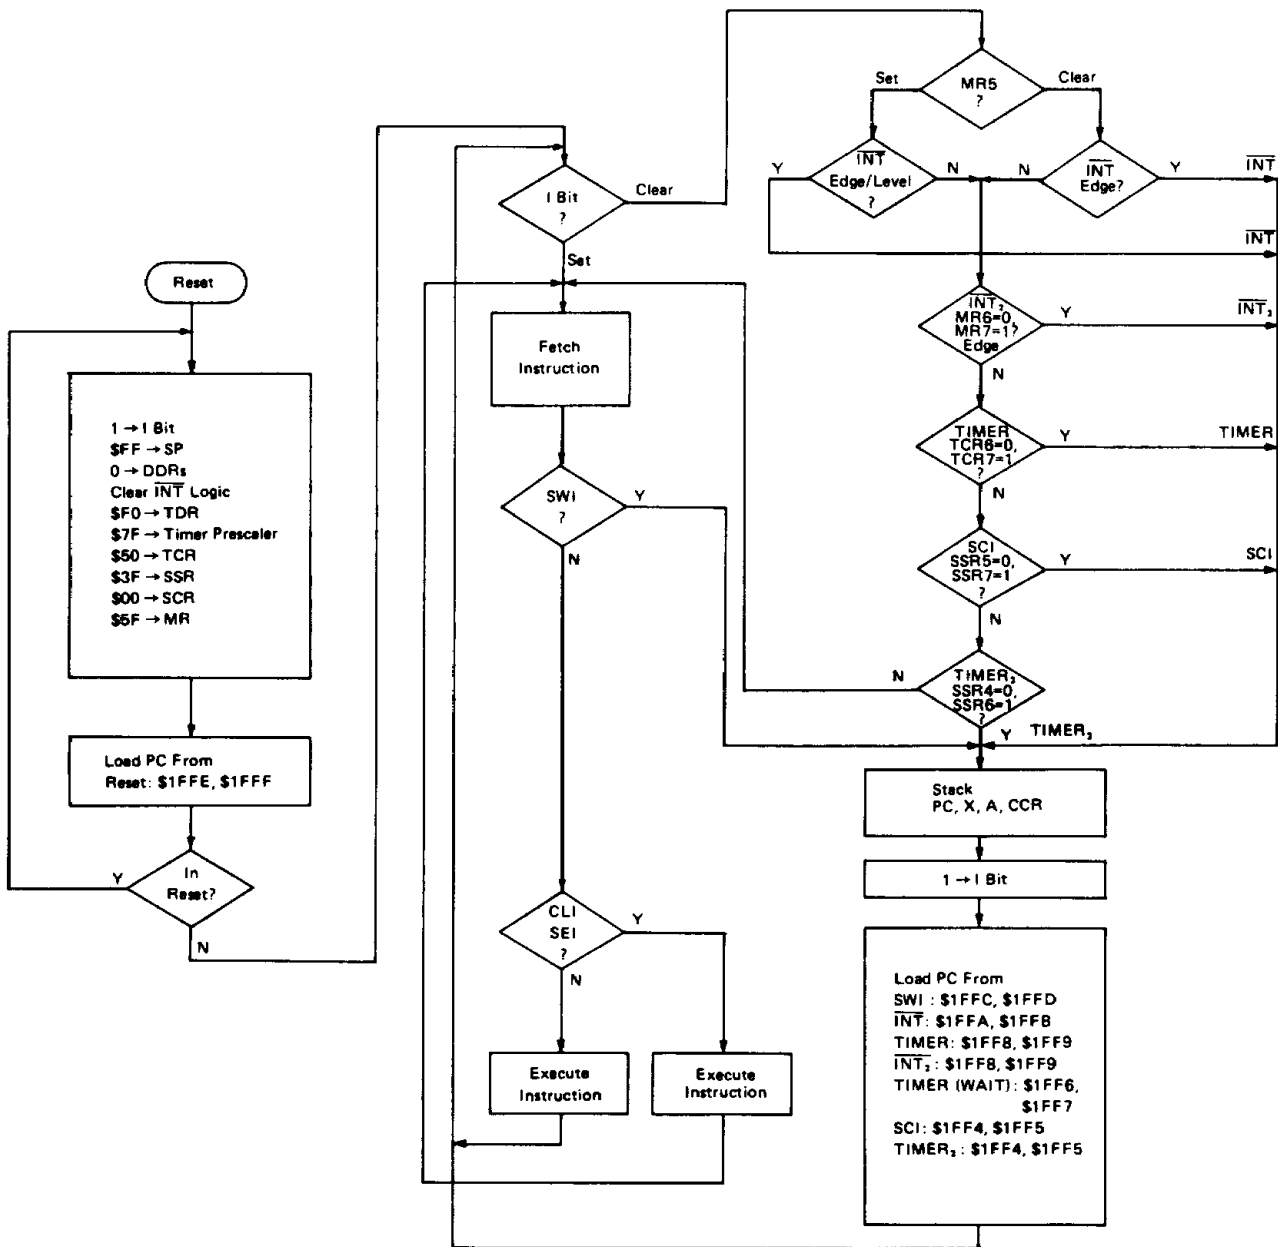
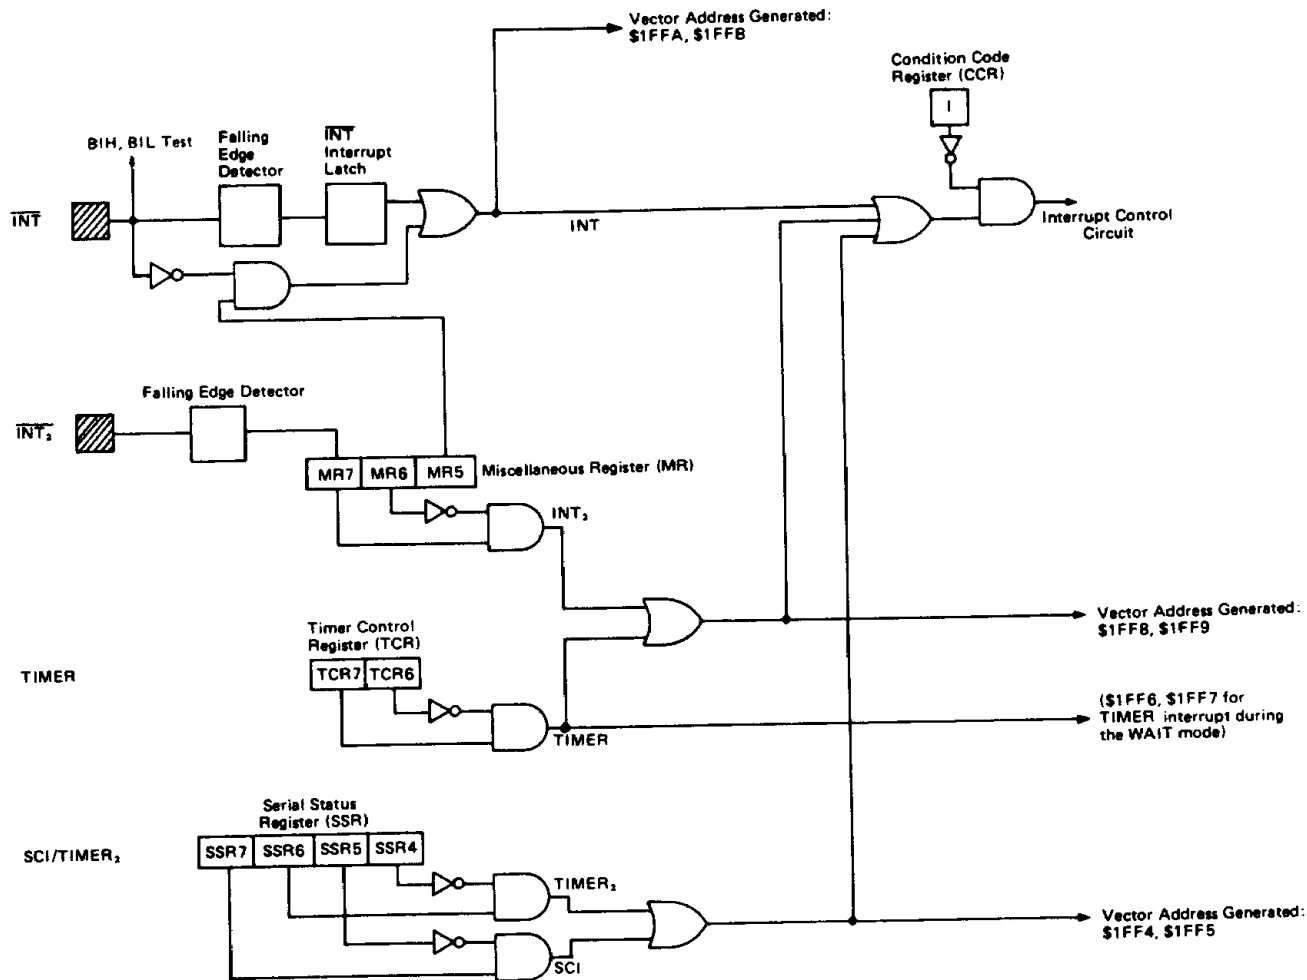

Figure 7 Interrupt Flowchart
Figure 8 Interrupt Request Generation Circuitry
A flowchart of the interrupt sequence is shown in Fig. 7. A block diagram of the interrupt request source is shown in Fig. 8.
In the block diagram of Fig. 8, the external interrupt \overline{INT}_2 is a falling edge trigger input, whereas, the external interrupt \overline{INT} can be configured as a falling edge trigger input or a combination of falling edge and low level trigger input, depending on the status of bit 5 in the miscellaneous register (MR). When an interrupt request is detected at the \overline{INT}_2 or \overline{INT} inputs, an interrupt re-